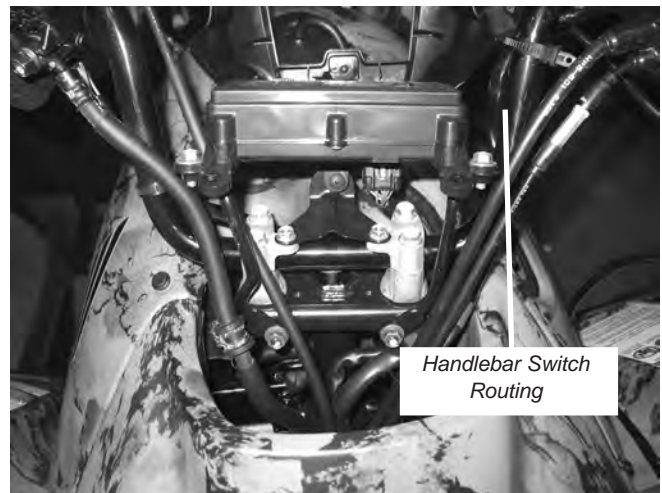

Figure 29 Handlebar Switch Wire Routing
c. Remove the handlebar cowl to expose the ignition switch wire harness, refer to the Honda service manual for model specific instructions. Route the handlebar winch switch wire down the handle bar, figure 29. Use existing and supplied plastic tie straps to secure handlebar switch leads.